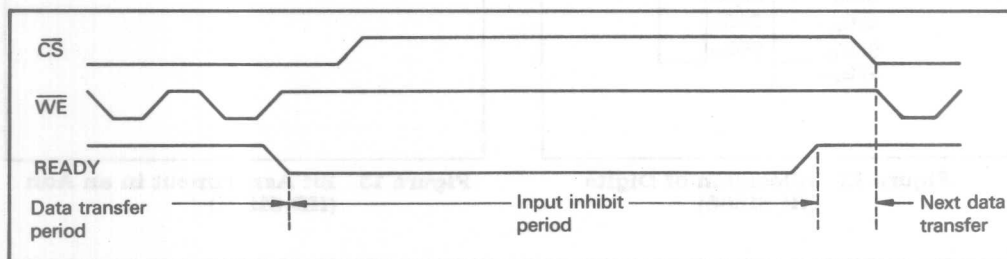

Figure 14 READY Output Timing (When It is Always Available)
- READY is always available (figure 14).